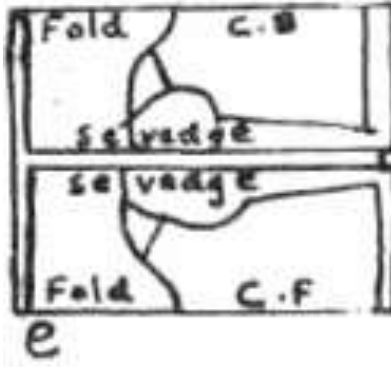

Fig.12.1e
e) **Double fold (Fig.12.1e):** This is used when many pattern pieces that are not too wide must be cut on fold. For garments with no opening for front and back sections, this type of fold can be used provided the cloth is wide enough to accommodate the patterns when folded this way.